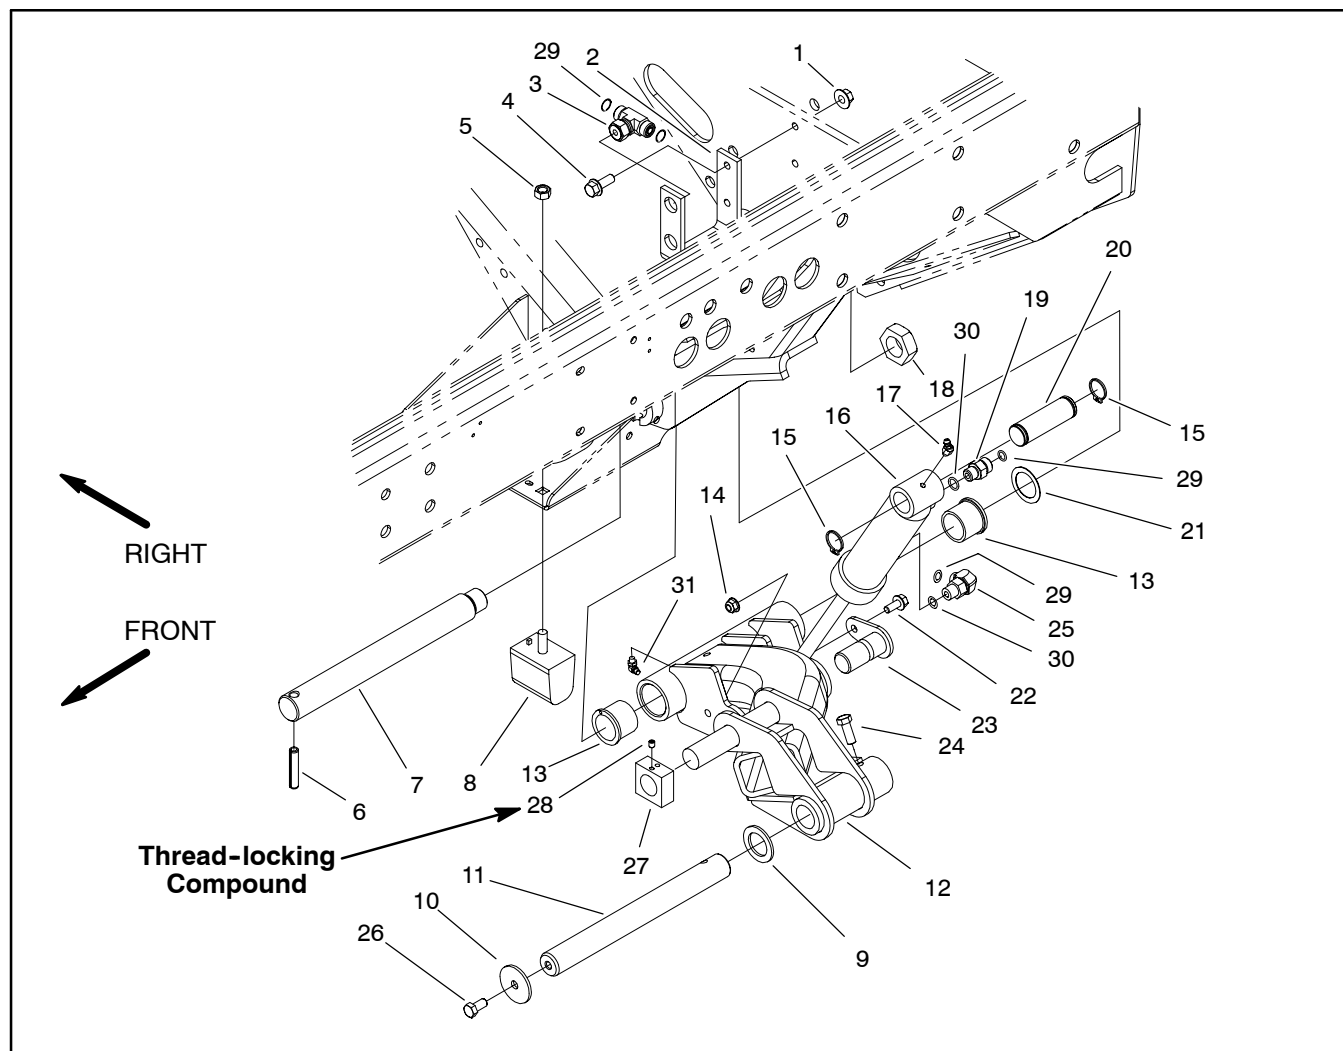

Figure 6
1. Position lift arm to frame (Fig. 6). Fit thrust washer between rear of lift arm and frame. Slide pivot pin into frame and lift arm. Align roll pin in pivot pin with slot in frame flange.